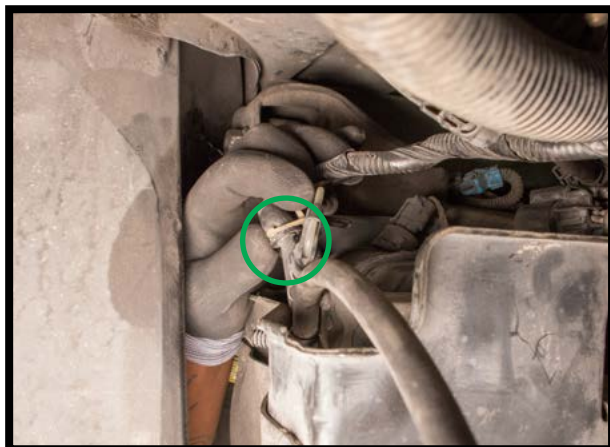

FIGURE 6, 7
8. INDIVIDUARE E SCOLLEGARE LA TUBAZIONE DELL'ARIA DAL COMPRESSORE. (FIGURE 6, 7)